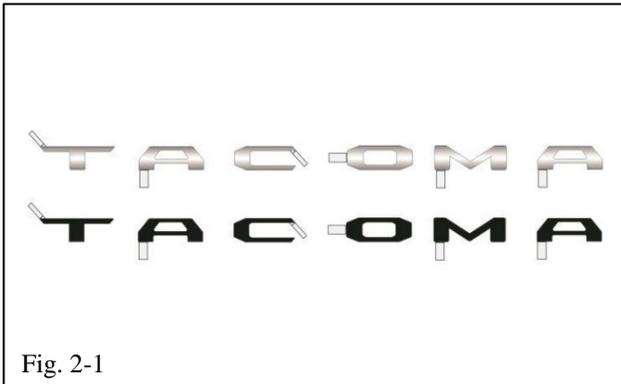

Fig. 2-1
- (a) Inspect the kit for contents and damage (Fig. 2-1).
- (1) Bright Chrome: PT948-35180-00
- (2) Flat Black: PT948-35181-02